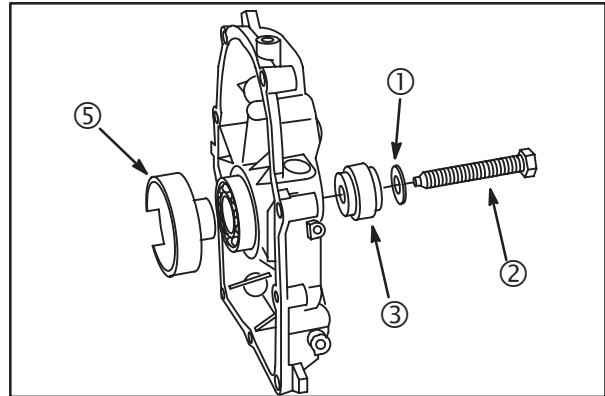

Fig. 17
1. Place ball bearing on to Support #19440, **Fig. 17**.
2. Assemble washer (1), to puller screw (2).
3. Insert screw (2) and washer (1) through pilot (3) and thread into support (5). Tighten screw until bearing is seated.